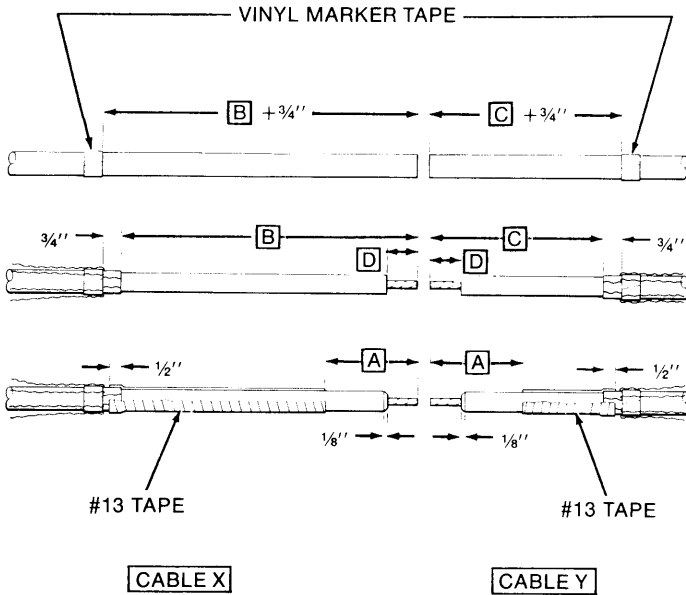

Figure 1
2. Place vinyl tape marker at dimension **B** plus  $\frac{3}{4}$ " for cable "X" and C plus  $\frac{3}{4}$ " for cable "Y" (Figure 1, Table A). Pull shield wires back to this marker. **DO NOT CUT WIRES OFF.**
4. Remove insulation to dimension **D** (Figure 1) and taper edges  $\frac{1}{8}$ ", at approximately 45°.
6. Apply 2 highly elongated half-lapped layers of Scotch Brand 13 Semi-Conductive Tape starting  $\frac{1}{2}$ " on semi-con jacket and continuing along insulation to dimension "A" for cables "X" and "Y" (Figure 1). Leave a smooth even leading edge and tape back to semi-con jacket cut-off point.